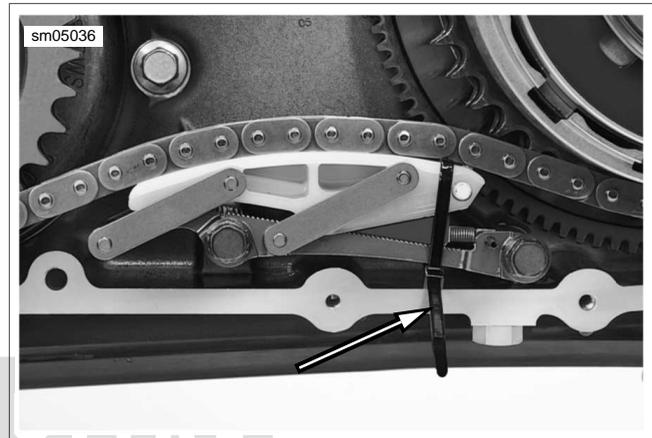

Figure 6-4. Securing Chain Tensioner
3. See Figure 6-4. Secure chain tensioner with a cable tie as shown. Make sure the tail of the cable tie hangs down past the primary housing when secured. This will serve as a reminder to remove the cable tie before installing the primary cover during assembly.